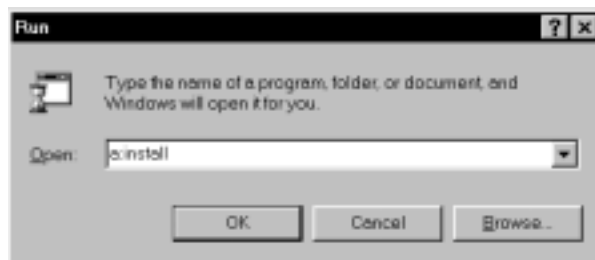

Figure 2-9. Run dialog box.
3. Select **Run** from the **File** menu in the **Program Manager**, enter **a:install** (or **b:install**) in the **Command Line** (Figure 2-9), then click **OK**.